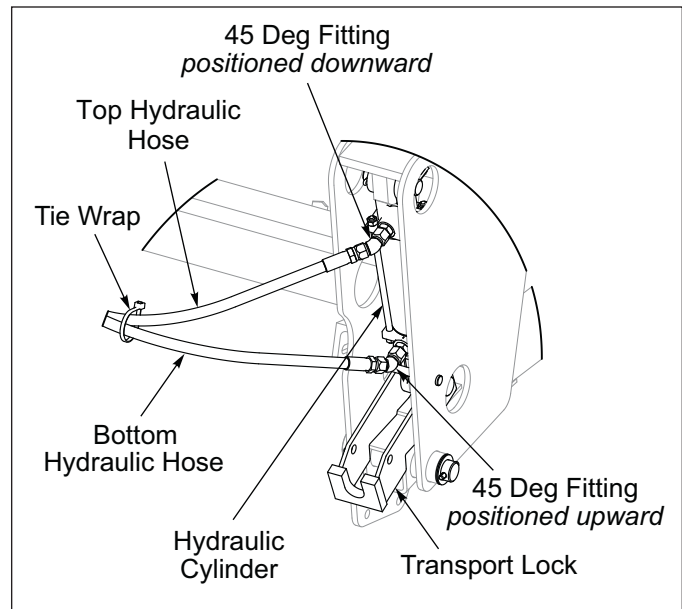

Figure 2-14: Cylinder Fittings Positioning
1. Restrictors installed in Cylinder Ports, connect 45 Degree Fitting so they are free to swivel. Connect top Hydraulic Hose to the Cylinder Base and bottom Hydraulic Hose to the Cylinder Rod End. Position the Hydraulic Hoses so that the Cylinder Base End points downward and the Cylinder Rod End points upward. Merge Hydraulic Hoses together and Tie Wrap them together about 12 inches from the Hose End. **See Figures 2-14 and 2-16.** Be sure that the Hoses cannot sag and make contact with the Front Roller Wheels.